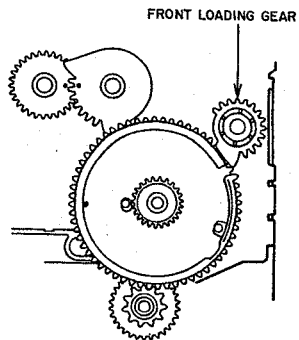
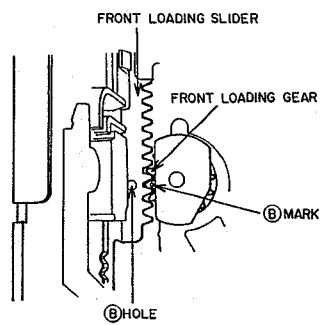

Fig. 3-10
Fig. 3-11
- 3) Attach the FRONT LOADING GEAR as shown in Fig. 3-10 and align the Ⓞ mark on the FRONT LOADING GEAR with the Ⓞ hole of the FRONT LOADING SLIDER as shown in Fig. 3-11.